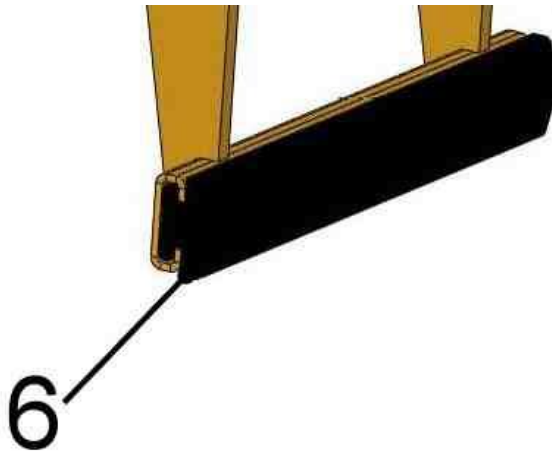
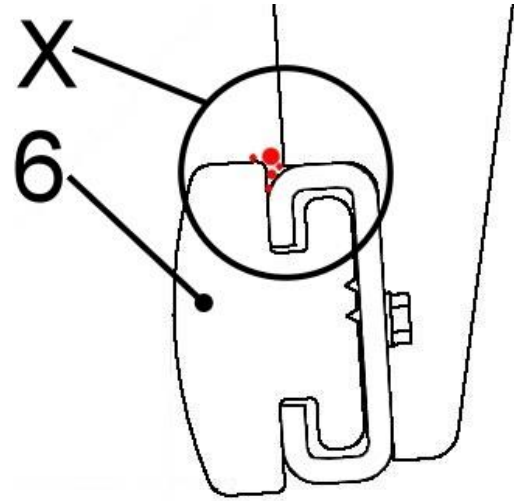

Fig. 1
Fig. 2
Regular control for dirt (e.g. little stone particles) in the upper area (see points in figure detail „X“ in Fig. 2) of the rubber gripper bar (6) → see Fig. 1 / Fig. 2
**Problem:** Dirt can damage the rubber gripper bar (6) when gripping (when little stone particles are pressed into the rubber gripper bar).
**Redress:** Remove the dirt in this area at the rubber gripper bar (6), or when heavy polluted, dismount and clean the rubber gripper bar.